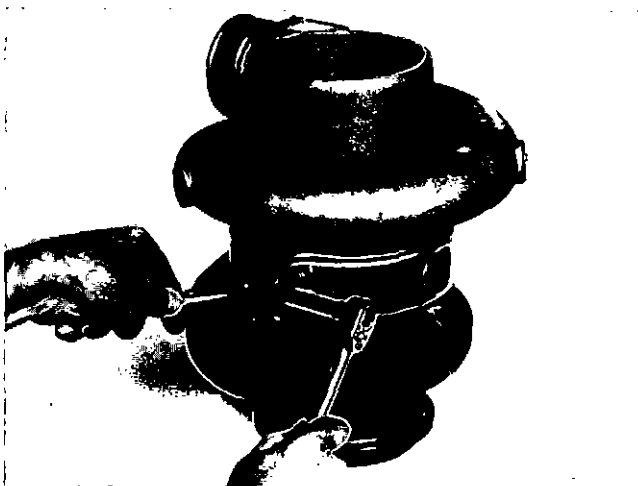

Fig. 4-2, (T465054). Remove the V-band clamps
3. Remove the locknuts, washers and the bolts which hold the V-band clamps to the turbocharger, Fig. 4-2. Lift off the V-band clamps (15) and discard the locknuts, washers and bolts.